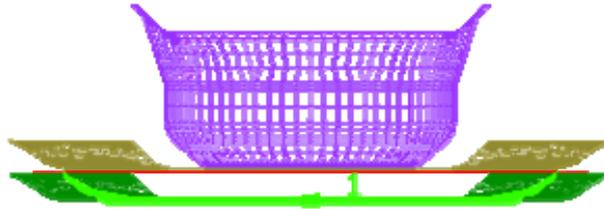

Figure 7.40 The relative position of tools and blank after positioning
6. Click  and  icon from the **Icon bar** to display the relative position of tools and blank, as shown in Figure 7.40.